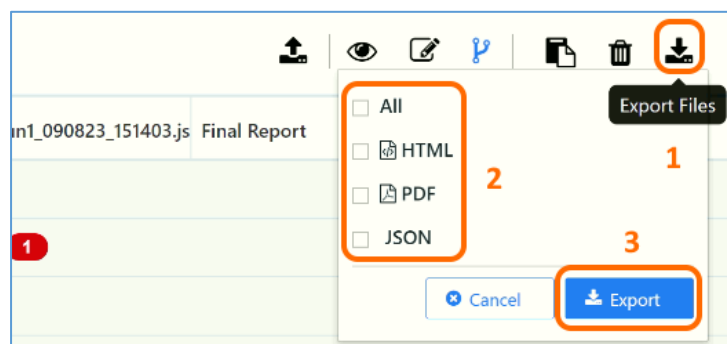

FIGURE 8.121: DOWNLOAD/EXPORT JSON REPORT FILES
1. Click on the Download icon  at the top right of the JSON Report Analyser screen as shown in Figure 8.121 below.